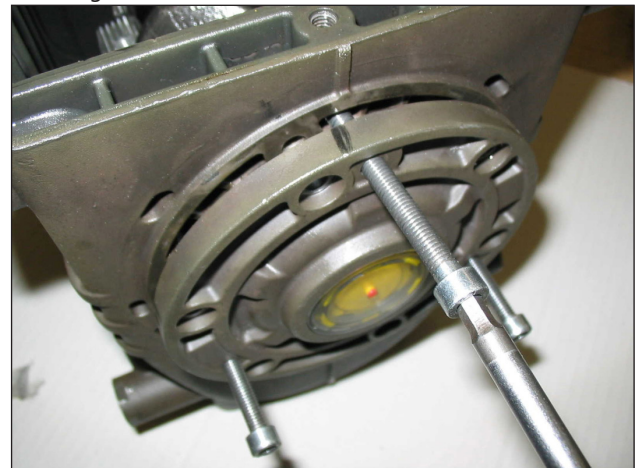

Fig. 3
- the side covers using for extraction 3 fully threaded M6x50 screws, inserting them in the threaded holes as indicated in Fig. 3.